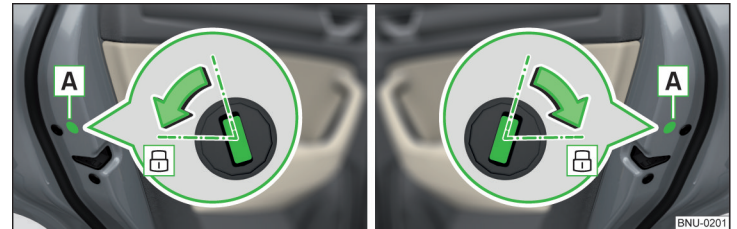

Fig. 347 Left door/right door:
- › In vehicles with the panel [A], remove this panel » Fig. 347.